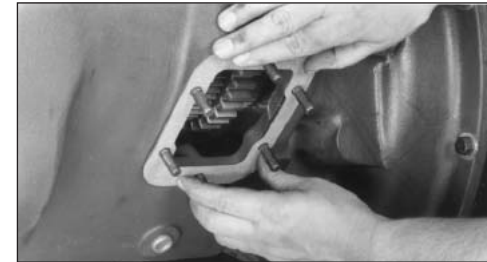

Fig. 1
1. Place the correct number of gaskets over studs (Fig. 1). Do not use Permatex between gaskets because you may want to add or subtract gaskets to obtain proper backlash.